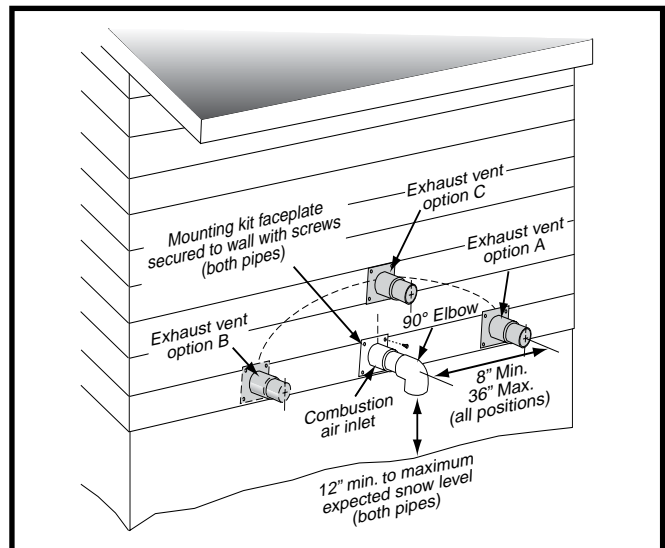
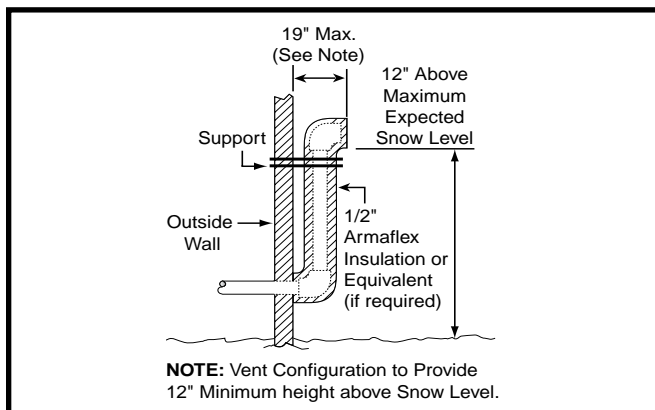

Figure 7. Inlet & Exhaust Pipe Clearances
Figure 9. Alternate Horizontal Vent Installation
- Vent and combustion air intake terminations shall be installed as shown in Figures 7 & 8 and in accordance with these instructions:
- When the vent pipe must exit an exterior wall close to the grade or expected snow level where it is not possible to obtain clearances shown in Figure 7, a riser may be provided as shown in Figure 9. Insulation is required to prevent freezing of this section of pipe. See Table 3 (page 14) for vent freezing protection.